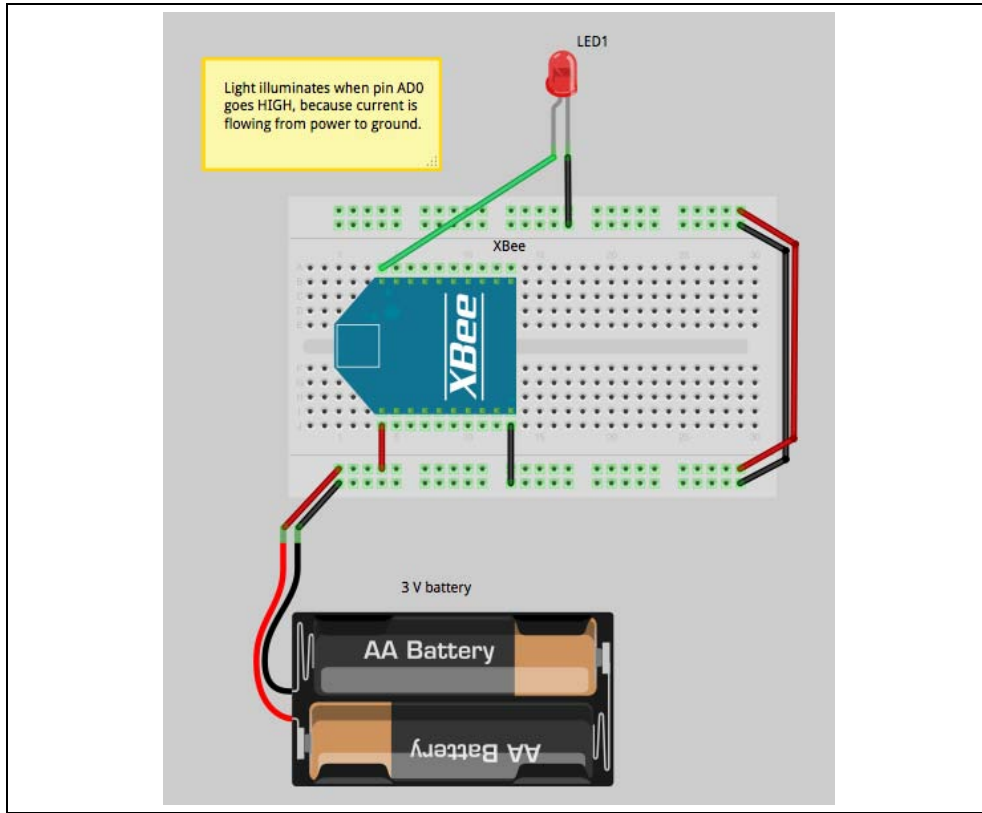

Figure 9. Breadboard layout for Simple XBee Receiver
4. Hook up power and ground across the breadboard so that the rails on both sides are live (see Figure 9).
2. Connect the LED's shorter, negative lead to one of the ground rails as shown in Figure 9.